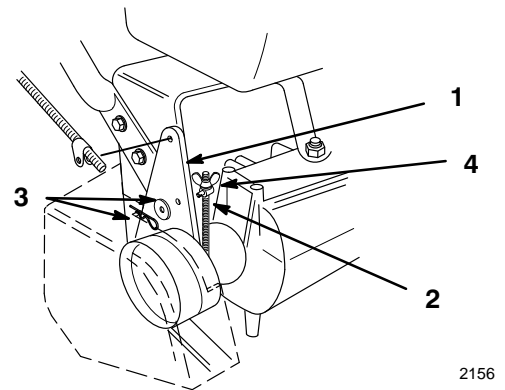

Figure 9
6. If an adjustment to brake rods is required, remove hairpin cotter and washer securing brake rod fitting to idler bracket (Fig. 9).
7. Adjust wing nut up or down on brake rod and resecure to idler bracket (Fig. 9). Check adjustment and readjust if necessary.